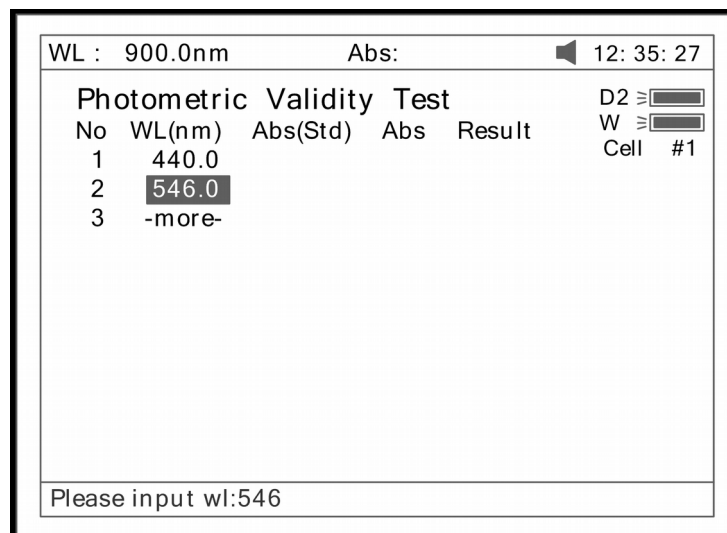

Fig 90
1. Press **(SETλ)** to set the wavelength. Press **(ENTER)** to edit and input wavelength by pressing the numeric keypad (Fig 90). **(ESC/STOP)** to finish inputting and exit.